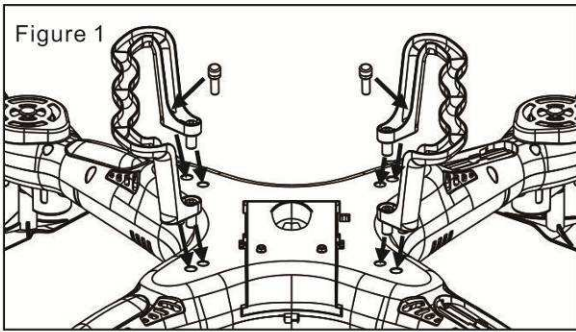

Figure 1
1. Use a screwdriver to remove the screw on the back of transmitter, than open the battery cover (Figure 1)
1. Install the landing skids to the bottom of quadcopter (Figure 1).
1. Push the camera into hold on the battery cover (Figure 1).